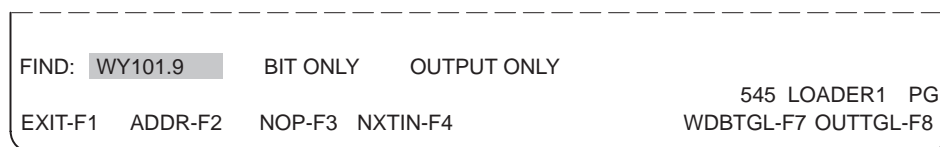

Figure 10-4 Find Function Keys
2. Press **FIND-F3** or **Ctrl F**. (See Figure 10-4.)